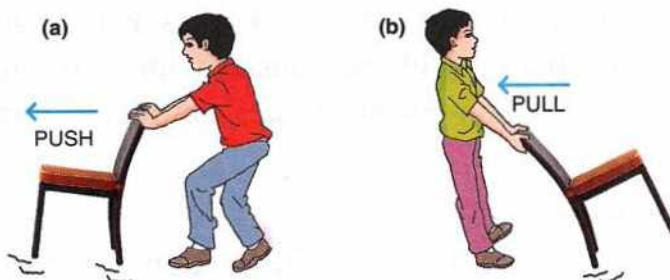

Fig. 3.12 Muscular force as a contact force
- (a) The muscular force applied as push and pull (Fig. 3.12).